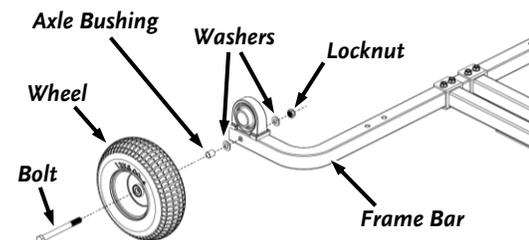

Figure 4
2. Install each Wheel to the Frame Bar with the Valve Stem facing using an M20 Bolt, an Axle Bushing, 2 Flat Washers, and an M20 Locknut (**Figure 4**). Tighten the Hardware using a 36mm Wrench on the Bolt and a 30mm Wrench on the Locknut.